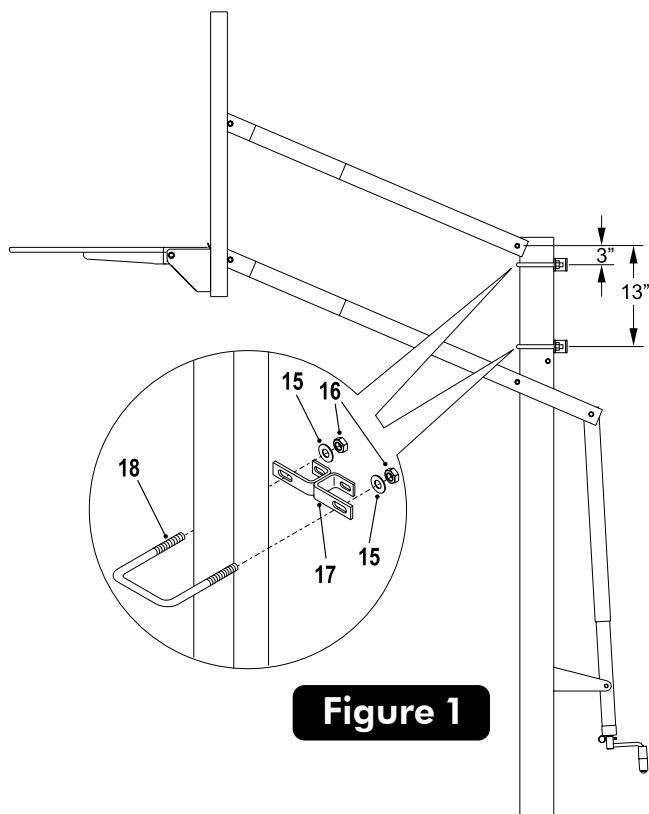

Figure 1
1. Attach a Black Bracket (#17) to pole 3" below top pivot point, as shown in Figure 1, using a U-Bolt (#18), two washers (#15) and two hex nuts (#16).
2. Attach a second Black Bracket (#17) 13" from top pivot point, as shown in figure 1, using a U-Bolt (#18), two washers (#15) and two hex nuts (#16).